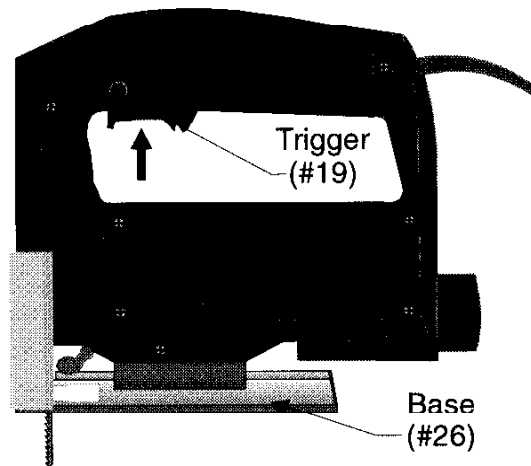

Figure 5 -- Operation
Step 3: Place the front of the BASE (#26) on the edge of the workpiece and press the TRIGGER (#19) to start the Jigsaw as shown in Figure 5.